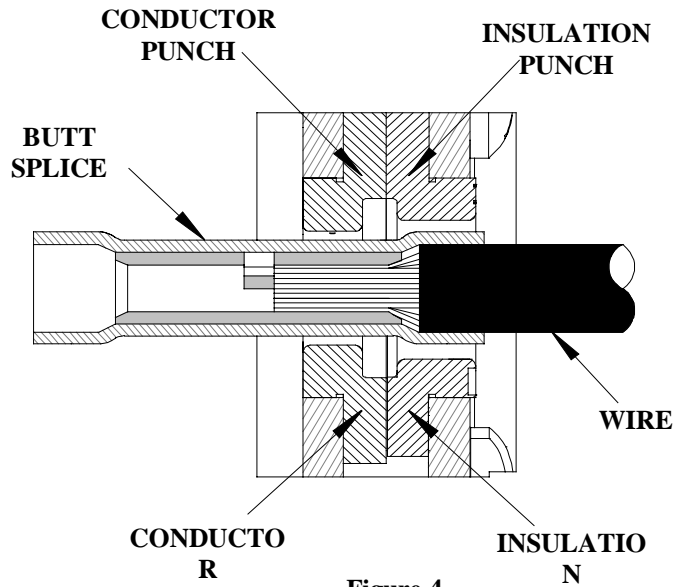

Figure 4
6. When crimping butt splices, or 3-way and 4-way terminals the locator must be removed. Splices must be aligned with the tooling visually in the insulation crimp (See Figure 4). The splice should be approximately centered inside the tooling nests (See Figure 4). Cycle the tool.
3. Make certain all pins; pivot points and bearing surfaces are protected with a thin coat of high quality machine oil. Do not oil excessively. The 64001-1500 (RHT-2200) was engineered for durability, but like any fine piece of equipment it needs cleaning and lubrication for a maximum service life of trouble-free crimping. A light oil, such as 30 weight automotive oil used at the oil points shown in Figure 4, every 5,000 crimps or 3 months will significantly enhance the tool life and ensure a stable calibration.